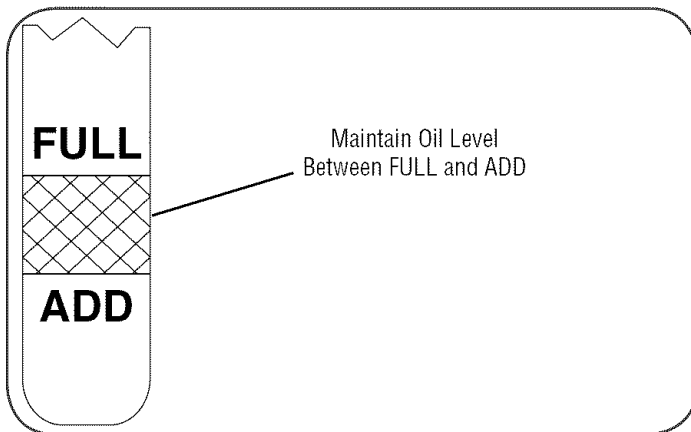

Figure 15
4. Unscrew and remove oil fill cap from oil filler tube. Note oil level. If oil reading on dipstick is below "ADD" mark, slowly add oil to reach "FULL" level. See Figure 15.